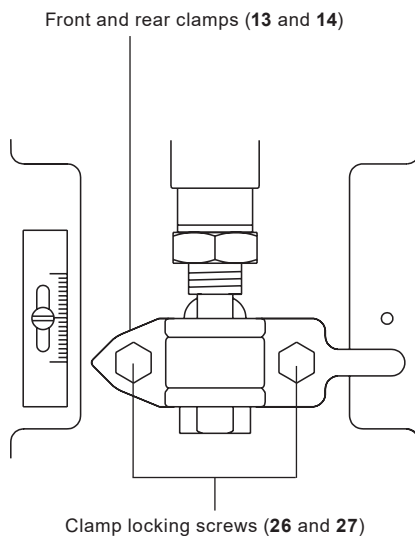

Fig. 5
- Apply the control signal pressure required to bring the spindle to mid-travel position (Figure 5). Place the actuator yoke over the valve spindle and locate it onto the bonnet shoulder. Hand tighten the mounting nut.
- Apply the setting pressure of the actuator, and then adjust the connector (10) so that it touches the valve adaptor (11), then tighten the lock-nut (25).
- Carefully release the control air signal. Fit the front and rear clamps (13 and 14) as shown in Figure 5.
Carefully release the control air signal. Fit the front and rear clamps (13 and 14) as shown in Figure 5.